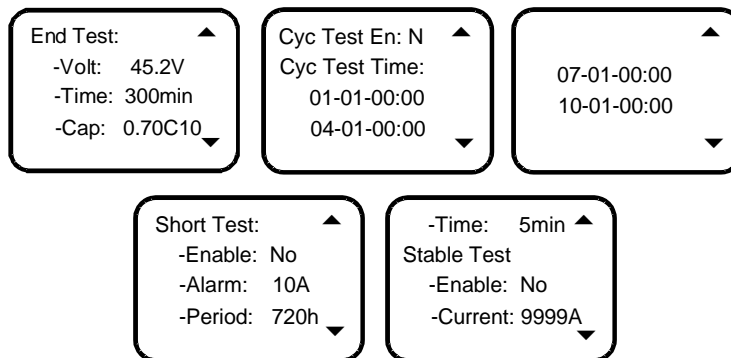

Figure 4-28 Battery test settings screen
1. At the BAT Settings screen, press ▲ or ▼ to select the 'Battery Test' menu, then press the ENT key to confirm. There are five screens, as shown in Figure 4-28.